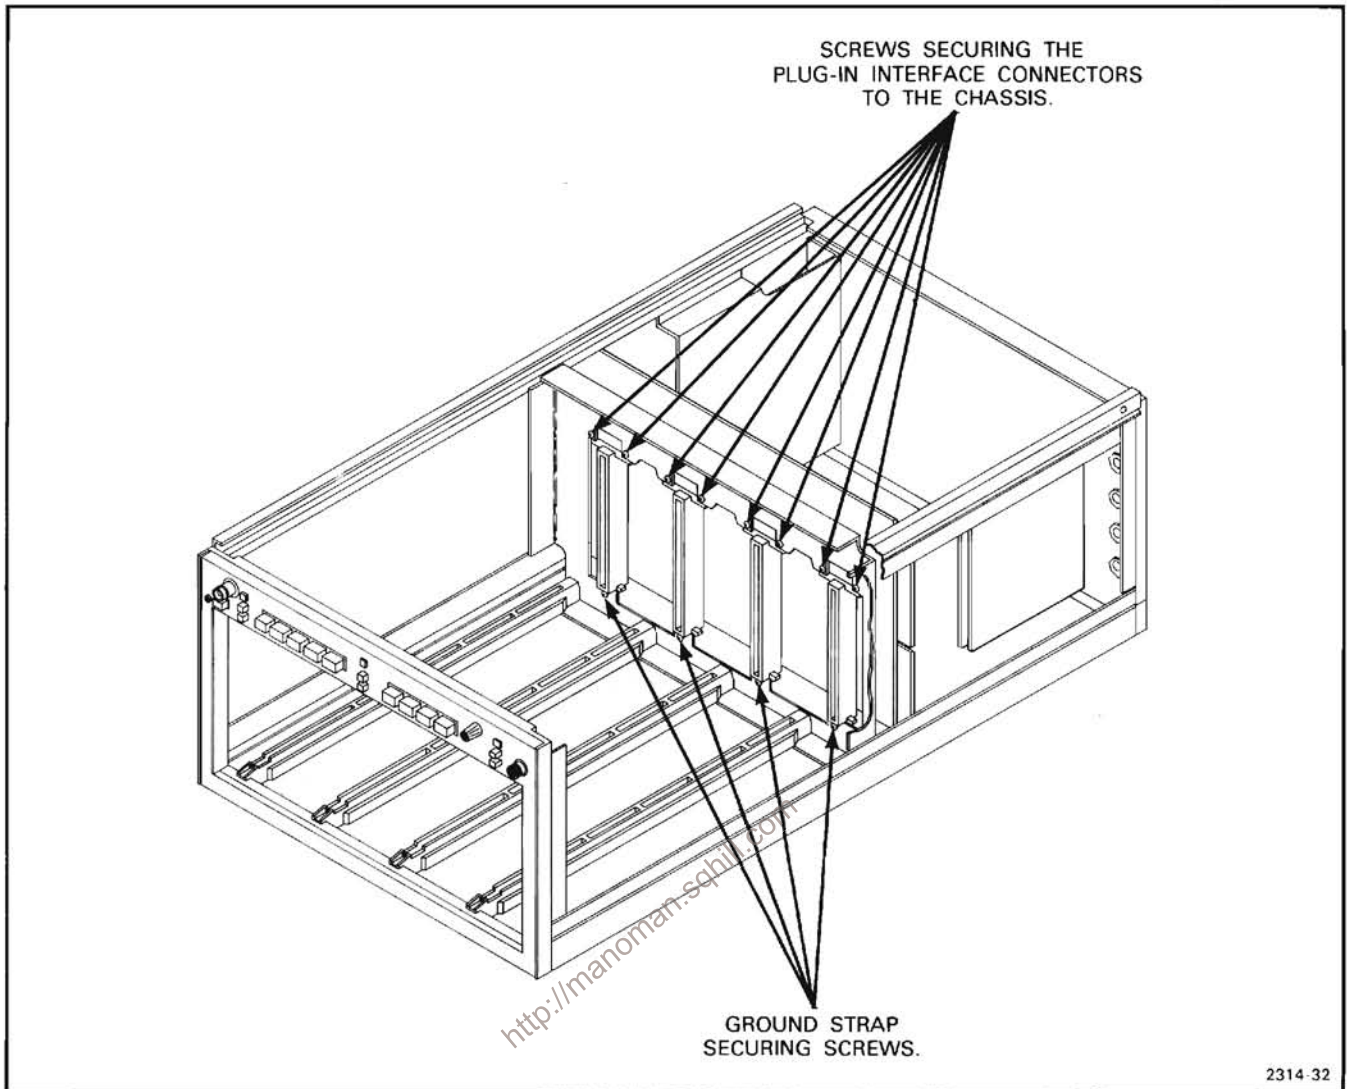

Figure 4-13. Location of securing screws for the A6-Main Interface board.
3. Remove the screws from inside each plug-in compartment which hold the plug-in interface connectors to the chassis (see Fig. 4-13). Also remove the screws which hold the ground straps to the chassis.